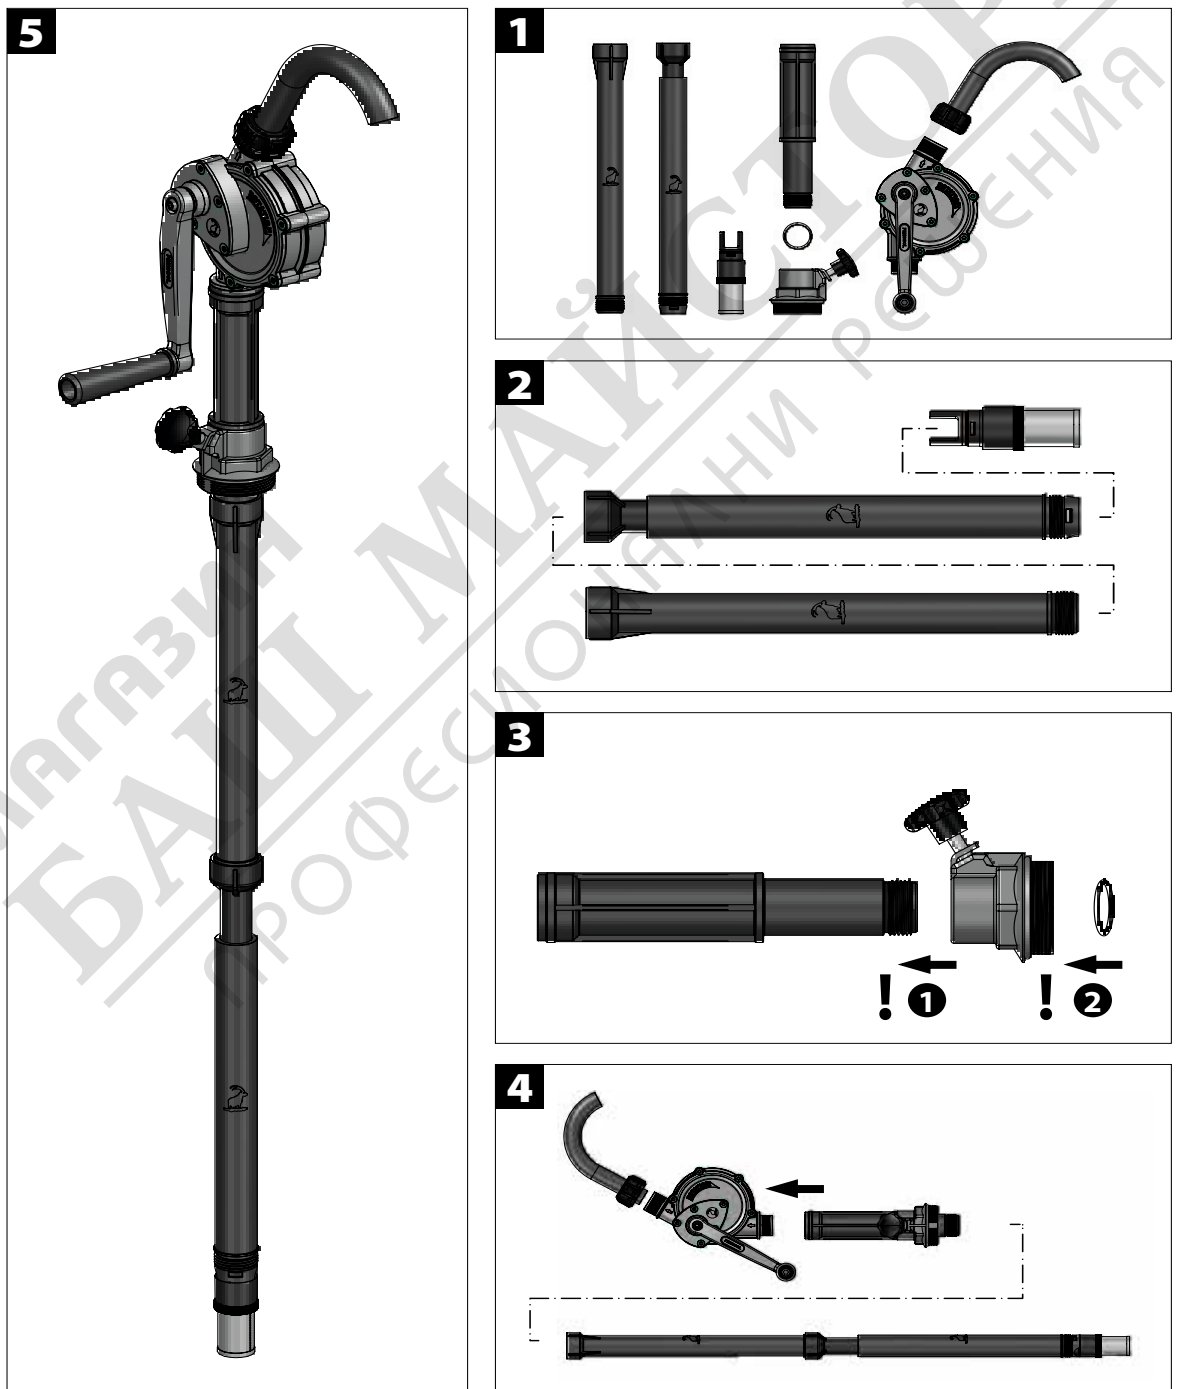

Fig. 5.-1: Assembly
- Check and prepare all parts before assembly. Refer to fig. 5.-1 (1).
- Connect the lower part of the suction tube with the middle part of the suction tube and the strainer. Refer to fig. 5.-1 (2).
- Push the barrel screw coupling on the upper part of the suction tube. Tighten the barrel screw coupling. Place the O-ring above the thread on the upper part of the suction tube. Refer to fig. 5.-1 (3).
- Assemble the lower suction tubes and the strainer (fig. 5-1 (2)) to the upper part of the suction tube with pump and discharge spout. Refer fig. 5.-1 (4).